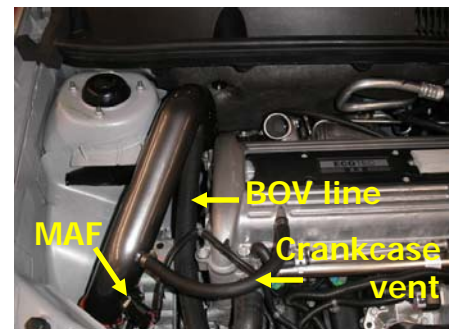

Fig. 24
25. Install the cold air intake – install the mass air flow (MAF) sensor in the intake pipe supplied. Using the couplings, clamps and air filter supplied, install the intake system and secure the anti-vibration mount. Reconnect the MAF sensor connection and tighten all the clamps including the crankcase breather and compressor bypass valve (Figure 24).